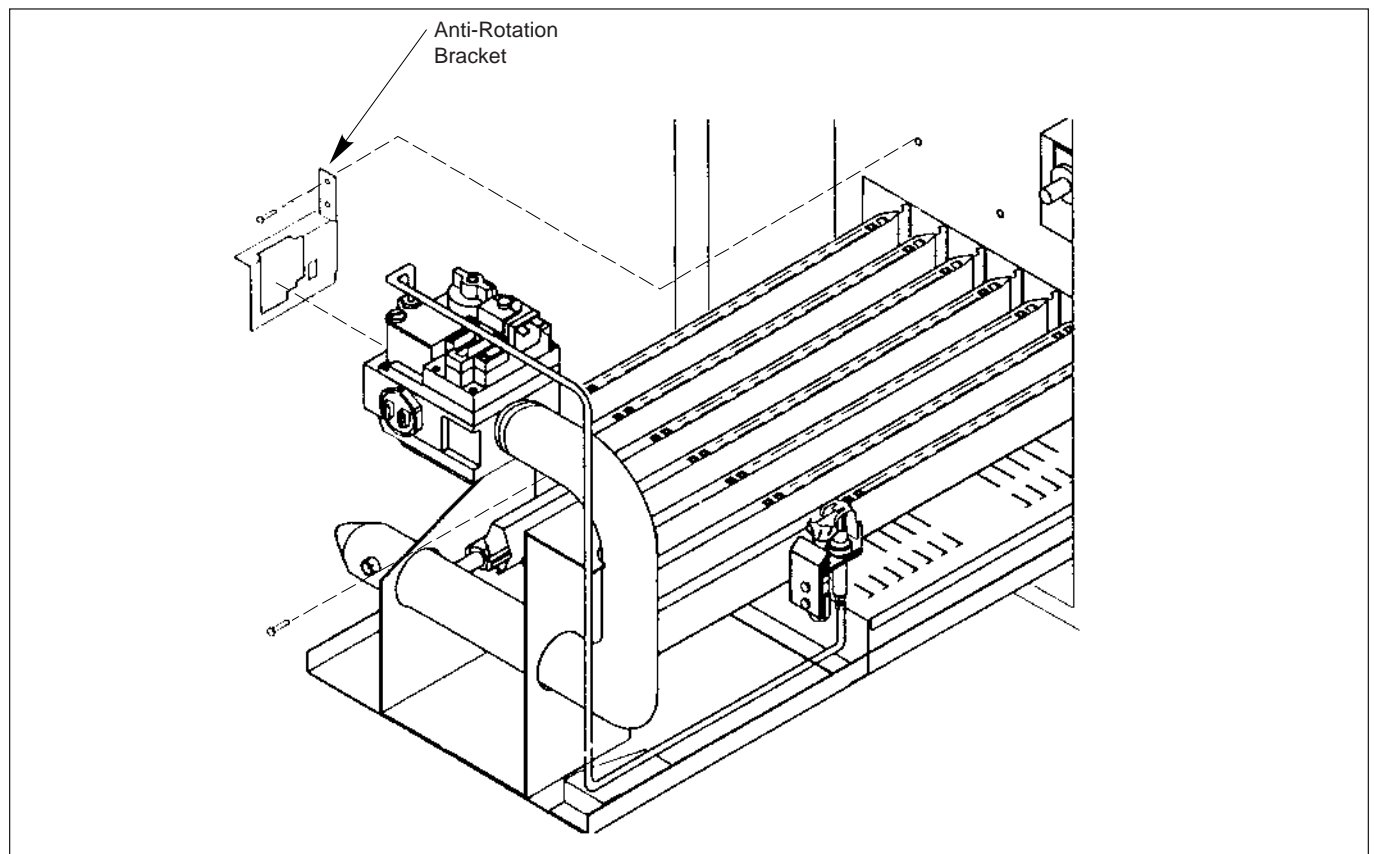

Figure 30. Gas valve/burner replacement.
5. Disconnect the service union in the gas line, and unscrew the main gas pipe from the gas valve (see Figure 30).
6. Remove the two screws that fastens the anti-rotation bracket on the left side of the gas valve (see Figure 30).
9. Pull the burner tray out of the heater (see Figure 30).
16. Install the anti-rotation bracket to the inner panel and fasten with two screws (see Figure 30).
18. Connect the service union in the gas line, and screw the main gas pipe to the gas valve (see Figure 30).